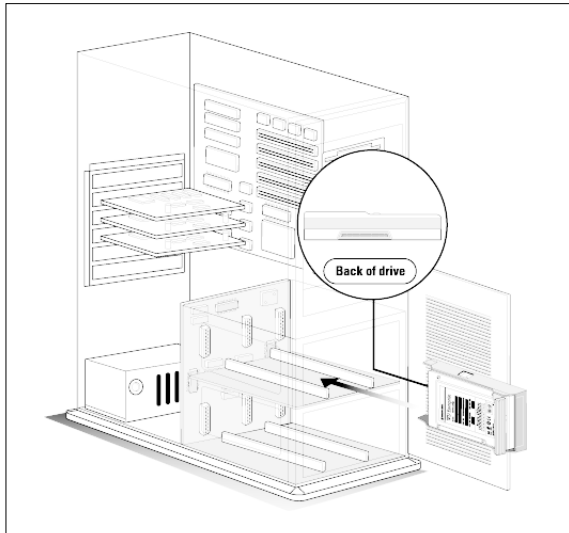

Figure 17. Installing an 80-pin Drive
- 2) Slide the drive/tray assembly into the designated drive slot, making sure that the end with the SCSI connector is inserted first. Refer to Figure 17.